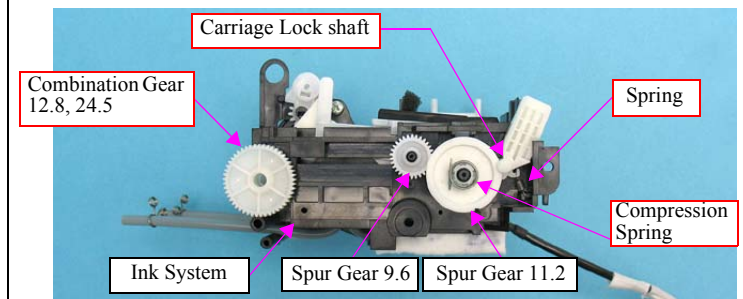

Figure 4-236. Cautions on Removing the Ink System
- The shafts of the Ink System shown in Figure.4-236 must be properly inserted into the four bearings of the Main Frame (○).